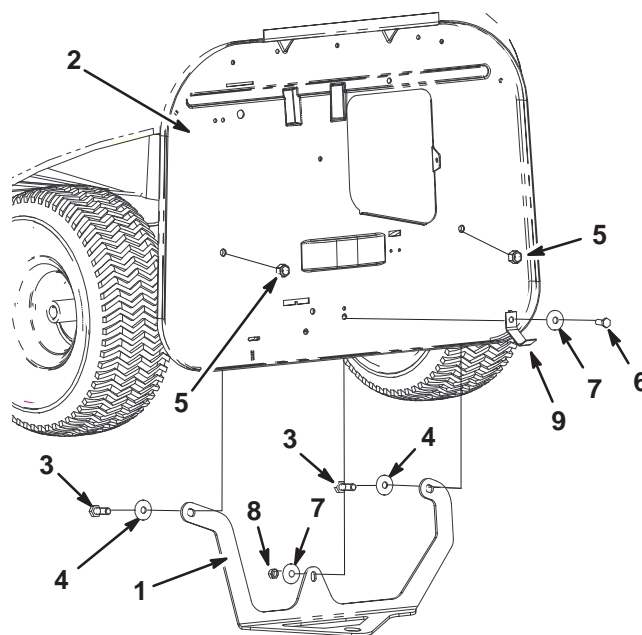

Figure 1
7. Remove the existing locknut and washer from **behind** the rear plate, but do not remove the existing bolt, washer, and latch on the opposite side (Fig. 1).
8. Install the towing bracket **behind** the rear plate onto the existing bolt as shown in Figure 1 and secure it with the washer and locknut you removed in step 7.
9. Secure the ends of the towing bracket with the 2 bolts, 2 washers, and 2 locknuts provided in the kit as shown in Figure 1.